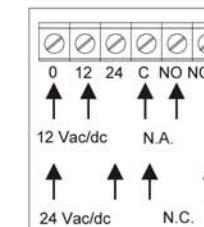
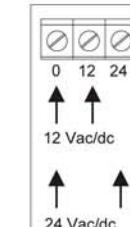

Fig. 9 / Bild. 9
Fig. 10 / Bild. 10
- 7 - Make the electrical connections, power the receiver (Fig. 9) and the transmitter (Fig. 10);
Connect the output contact to the terminals C and NO for a normally open contact or C and NC for a normally closed contact (Fig. 9).